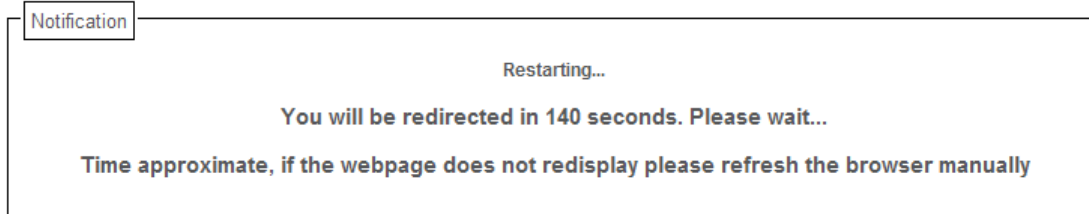

Figure 6 Waiting for Firmware Upgrade Completion
5. Click the **Firmware Update** button as in Figure 6.